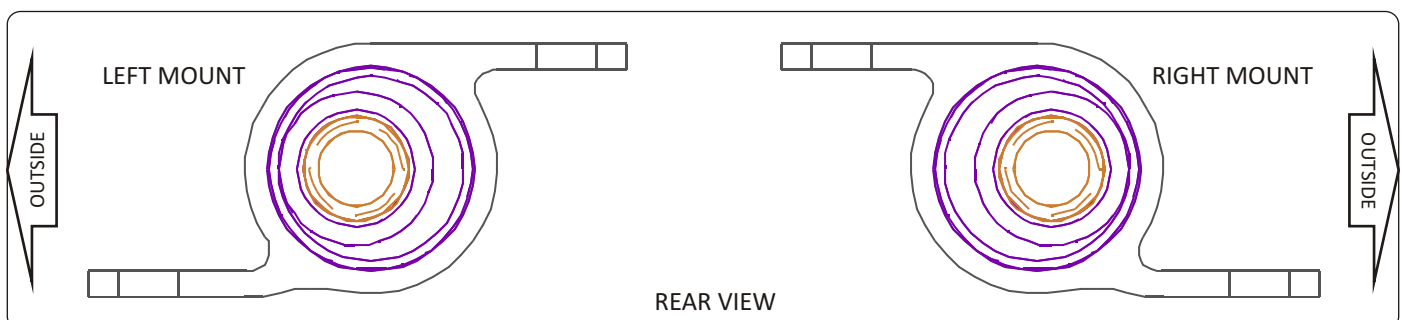

Fig 3. Maximum positive caster setting.
*Tip: For maximum vehicle stability, roadholding and performance, Powerflex recommends to install the bush for maximum positive caster off-set. Refer fig. 3.*